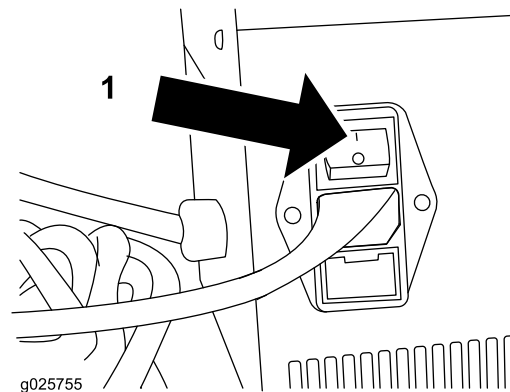

Figure 7
8. Turn the charger on (Figure 7). The "ON" LED indicator will illuminate.